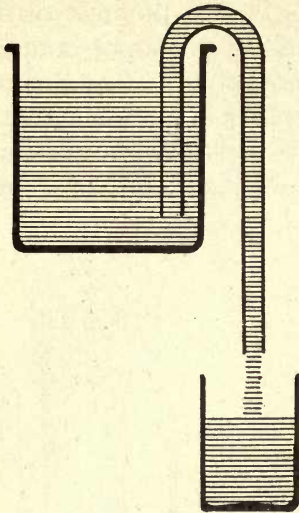

FIG. 80.—Siphon.
**The Siphon.** — Take a short glass tube about twelve inches long and bend it into the shape of the letter U, with one arm of the tube slightly longer than the other. Fill the tube with water, and then, holding the finger over the long end of the tube, insert the other end in a jar of water (Figure 80), letting the long end hang over